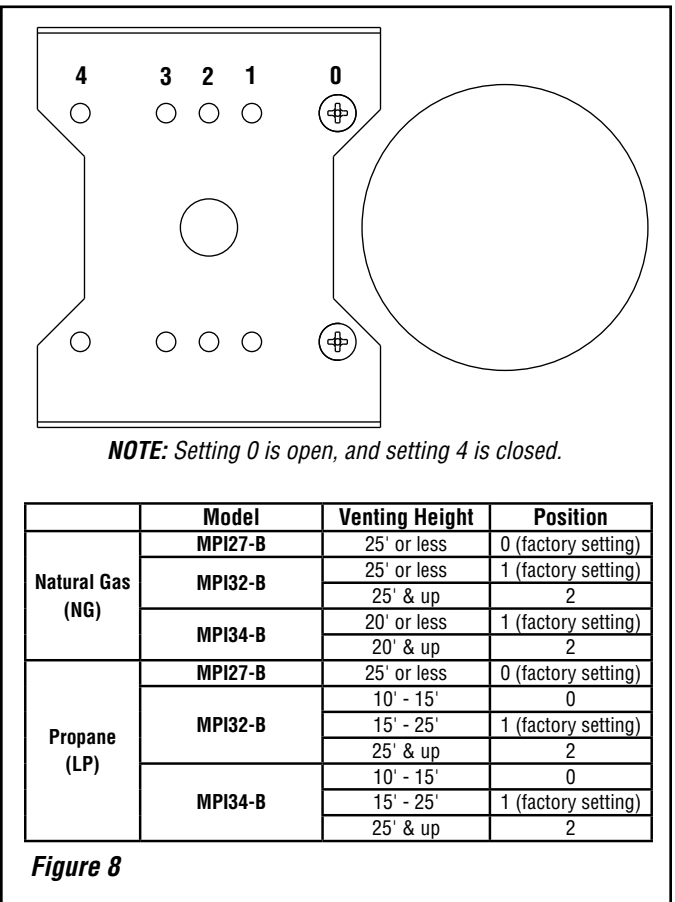

Figure 8
The flue restrictor settings shown in Figure 8 are for typical installations and are based upon laboratory testing. To achieve proper combustion, adjustments may be needed to account for variables in the installation, elevation, and typical operating temperatures.
2. Refer to table in Figure 8 and position the flue restrictor to the recommended setting and reattach with the two screws removed in step 1.